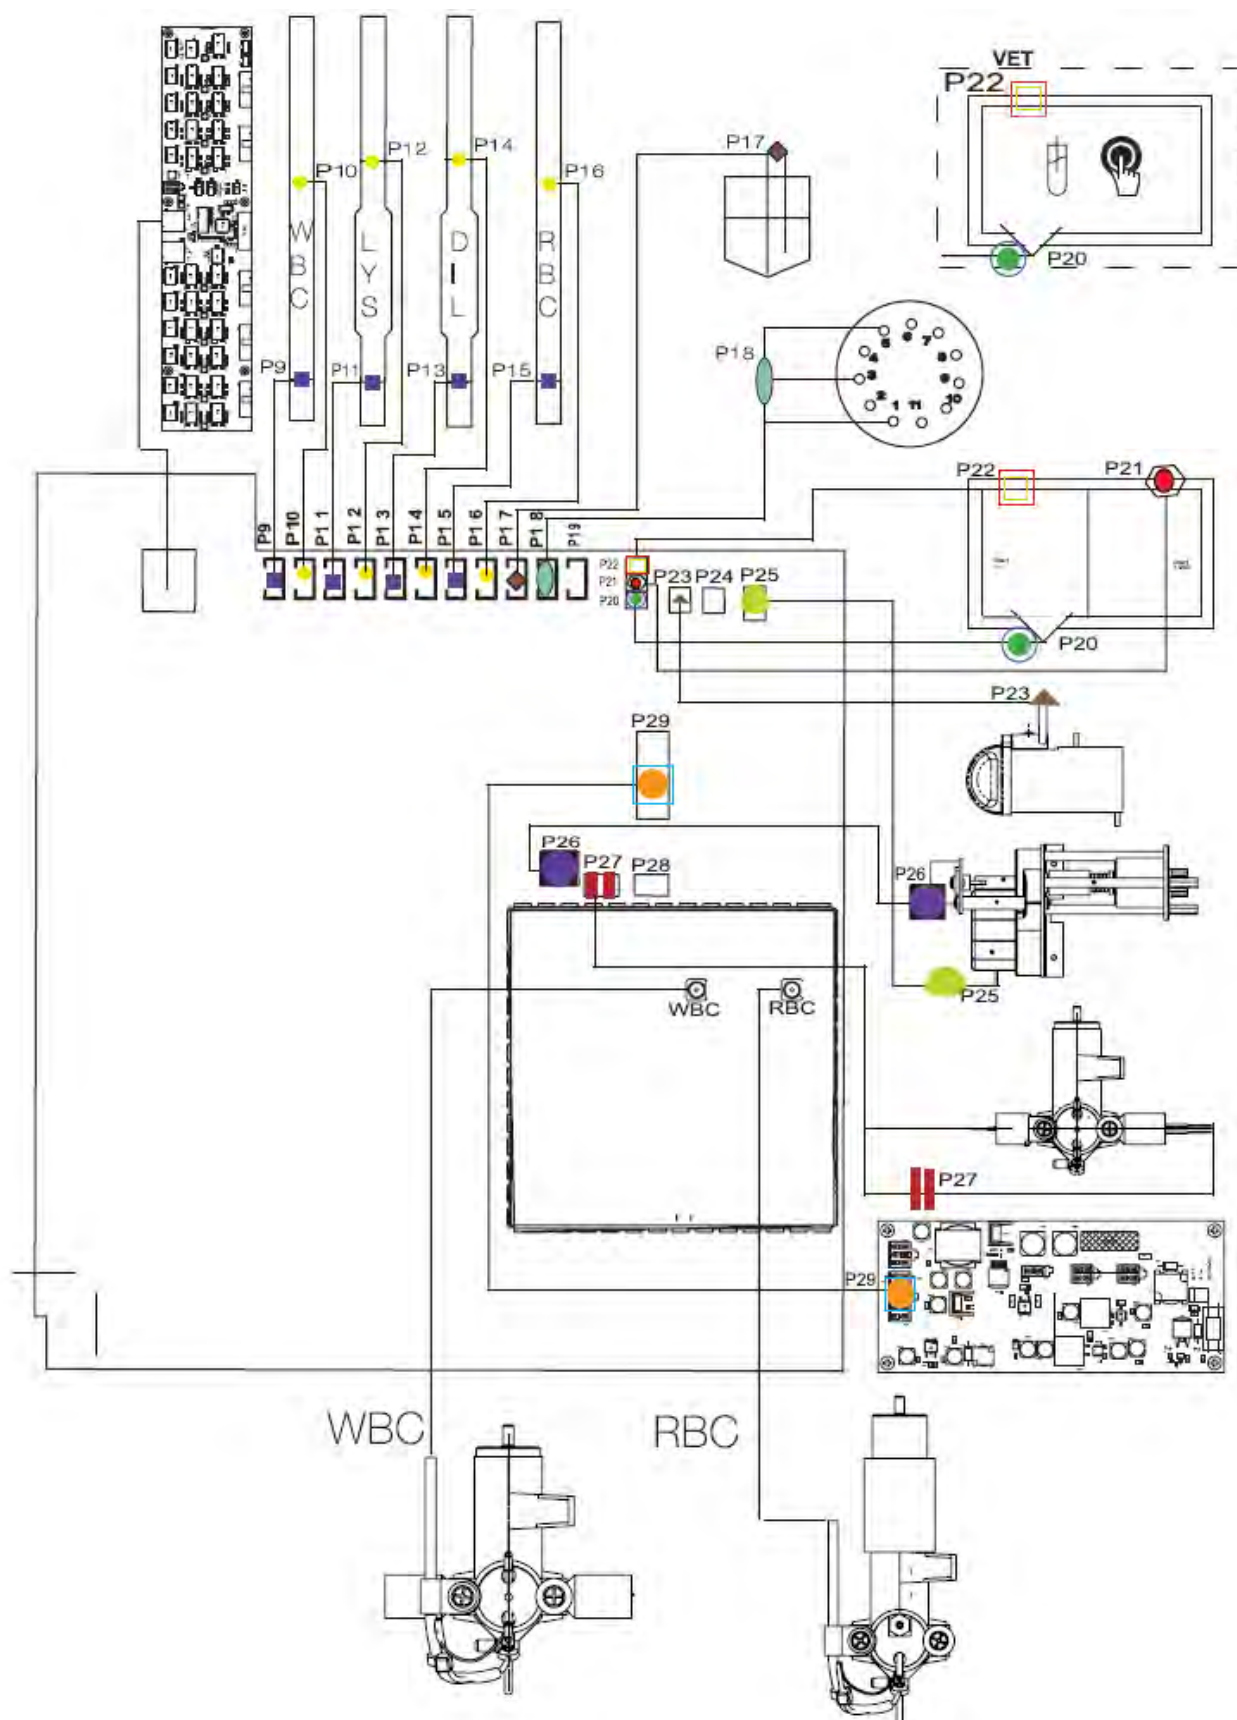

Figure 6.4
9. Connect the cables according to the Figure 6.4.
10. Reinstall cables according to Figure 6.4.
5. Reinstall cables according to Figure 6.4.
8. Gently press the liquid up until the lower detector activates (2).
10. Adjust the top detector so it indicates that it is filled (2).
13. Connect the cables according to Figure 6.4.